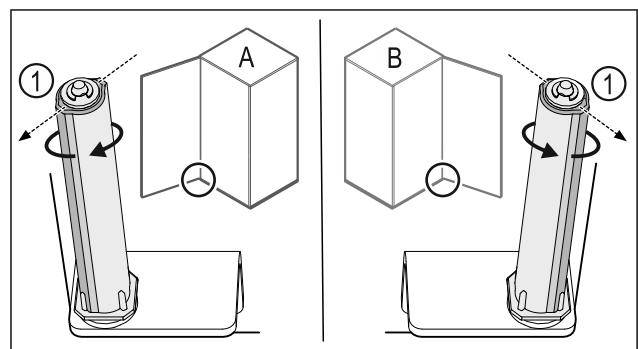

Fig. 30 Left-hinged (A) / Right-hinged (B)
- Turn the closing system against the resistance until the bar of the closing system Fig. 30 (1) points outwards.